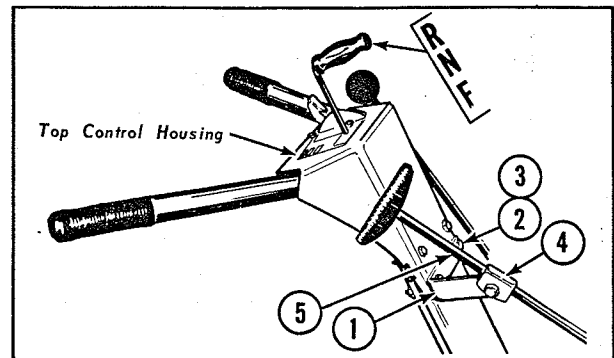
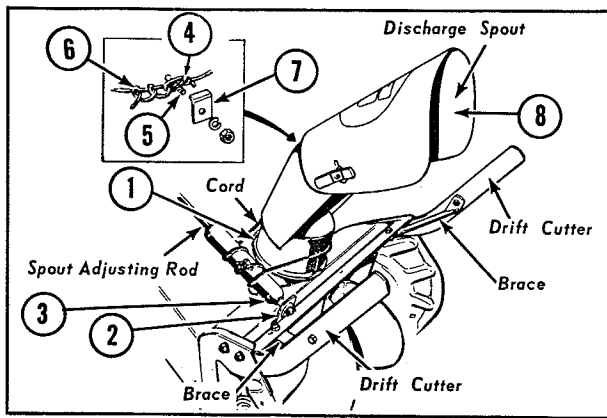

Figure 4
Figure 5
5. Assemble the spout control rod support bracket #1, Fig. 4, over the lower mounting holes #2, Fig. 4, in the top control housing and over the upper mounting holes #3, Fig. 4, in the handle covers. Fasten in place with two 1/4"-20 x 1 1/2" long hex capscrews, 1/4" lockwashers, and 1/4"-20 hex nuts. *Do not tighten securely at this time.*
8. Apply a coating of light oil to the neck of the discharge spout mounting collar, and install the spout #1, Fig. 5, in place on the rotor housing as shown. The application of oil is necessary to prevent rust and to allow the spout to rotate freely. Attach the spout control rod bearing #2, Fig. 5, to the rotor housing using two 1/4"-20 x 5/8" long hex capscrews and 1/4" lockwashers and 1/4"-20 hex nuts. Tighten securely. Insert the end of the spout control tube assembly #3, Fig. 5, through the bearing and secure with a cotter pin on both sides of the bearing. The upper end of the spout control rod #5, Fig. 4, is fastened to the spout control rod support bracket #1, Fig. 4, using a rod guide #4, Fig. 4, with liner and one 5/16"-18 x 1 1/2" long hex capscrew and 5/16"-18 hex nut.
9. With the spout facing forward, and the clamp on the cord drive tube facing away from the spout assembly, form a loop to fit snugly over the stud #5, Fig. 5, without slack in the cord. Pass the other end of the cord through the loop on the stud and secure with two half-hitches as shown at #6, Fig. 5, being sure to remove all of the slack in the cord system. Place the clamp plate #7, Fig. 5, over the stud and clamp the cord to the
10. Fasten the spout extension #8, Fig. 5, to the spout assembly, using two 5/16"-18 x 3/4" long carriage bolts, 3/8" special hexagon lockwashers, 3/8" plain washers, and wing nuts. Adjust to suit.
The 26" Sno Away has as standard equipment, two drift cutters which are to be attached to the rotor housing. Assemble the right hand and left hand drift cutter loosely to the rotor housing as shown in Fig. 5, using two 3/8"-16 x 3/4" long hex capscrews and 3/8" lockwashers and 3/8"-16 hex nuts. Note that the cutters are attached to the inside surface of the rotor housing and the heads of the capscrews are on inside of rotor housing also. Loosely attach right hand and left hand cutter braces to inside top front edge of rotor housing with 5/16"-18 x 3/4" long hex capscrew, 5/16" lockwasher, and 5/16"-18 hex nut. Refer to the exploded-view parts drawing on page 10 for the relative position of these drift cutters and braces.
The direction of travel of the sno away is controlled by the position of the transmission shift lever. Refer to Fig. 4. When shifting the transmission, always put the transmission clutch in disengaged position. To disengage the clutch, push the clutch lever forward. Refer to Fig. 4. With the clutch disengaged, push forward on the transmission shift lever and the transmission will shift into forward position and sno away will travel forward when the clutch is engaged. To reverse the sno away, disengage the clutch and pull back on shift lever and transmission will shift into the reverse position. Neutral position of the shift lever is half way between forward and reverse and the lever will be held in this position by a detent lever on the left side of the sno away frame.